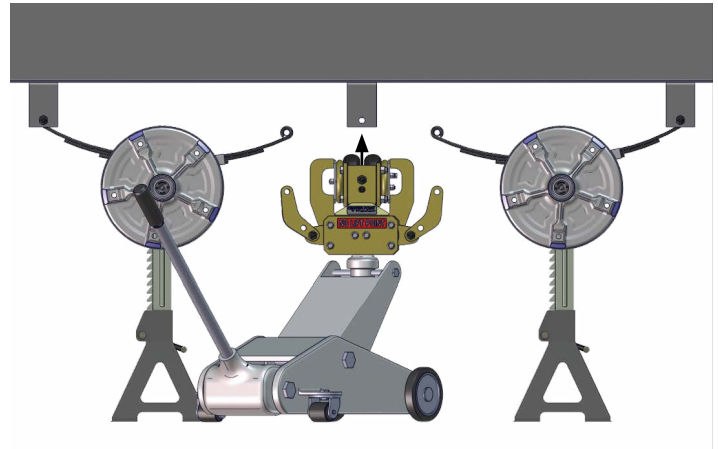

Fig.5
1. Raise the sub-assembly to the frame hanger (Fig. 5) and insert the cross-shaft bolt (Fig. 6A).